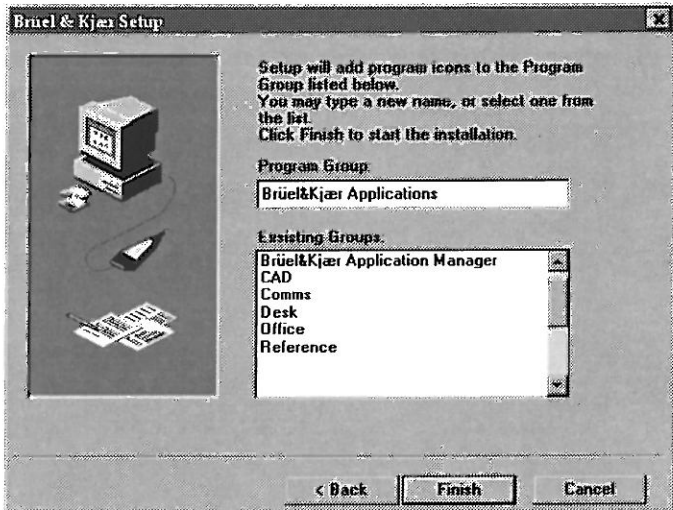

Fig. 6 The group to which Noise Explorer is added is specified in the Program Group box
11. The window that appears next (see Fig.6) asks you to select a Program Group.